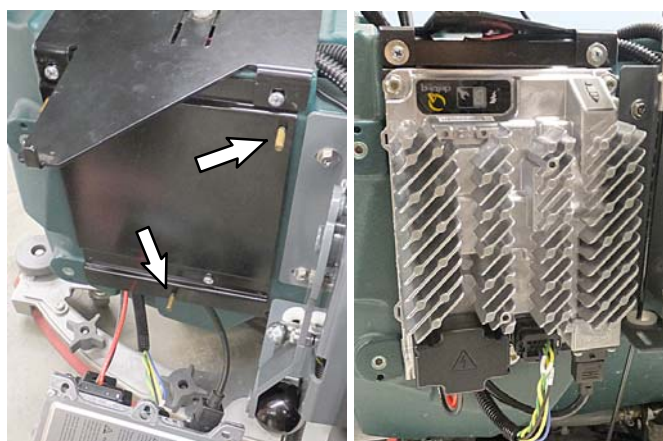

FIG. 24
10. Attach new battery charger to mounting bracket (FIG. 24). Use three lock nuts supplied with kit.